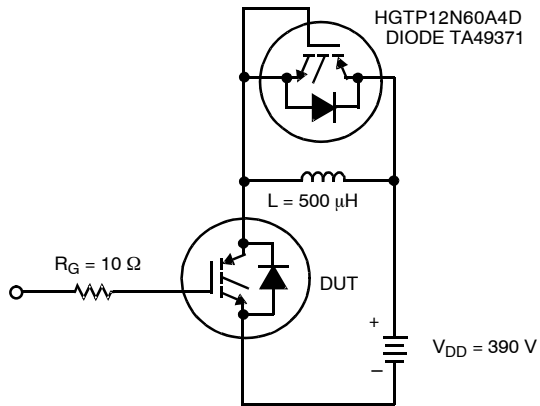

Figure 24. INDUCTIVE SWITCHING TEST CIRCUIT
- Values for two Turn-On loss conditions are shown for the convenience of the circuit designer.  $E_{ON1}$  is the turn-on loss of the IGBT only.  $E_{ON2}$  is the turn-on loss when a typical diode is used in the test circuit and the diode is at the same  $T_J$  as the IGBT. The diode type is specified in Figure 24.